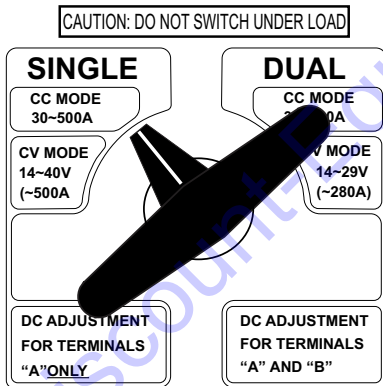

Figure 34. Single-Dual Selector Switch (Single Position)
1. Place the welding mode selector switch (Figure 34) in the **single** mode position. Select CC mode 30-500A.